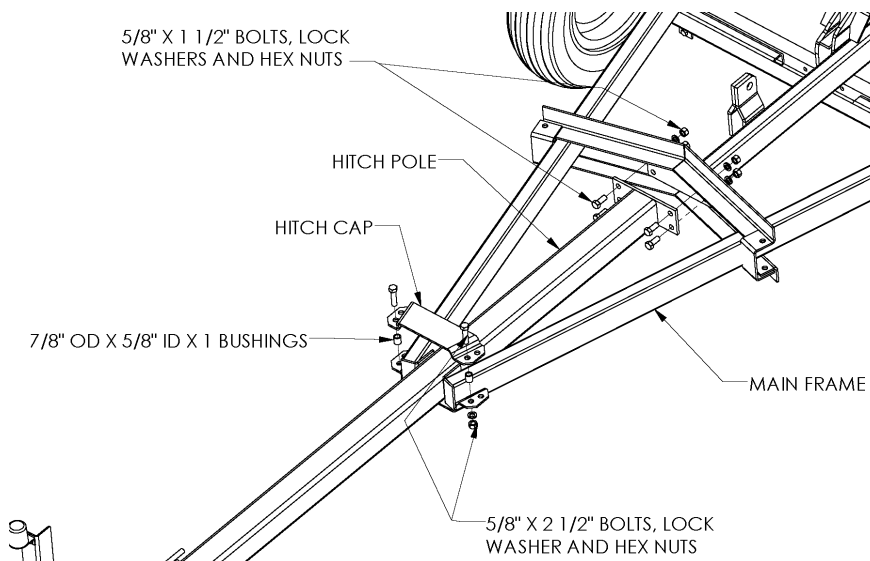

Figure 3
5. Place the hitch pole inside the main frame as shown in Figure 3 and bolt the rear of the pole to the frame with four 5/8" x 1 1/2" hex bolts, lock washers, and hex nuts. Be sure the hitch head is oriented as shown in Figure 3.
6. Place the hitch cap over the hitch pole with two 7/8" OD x 5/8" ID x 1" bushings between the plates at the front two holes. Refer to Figure 3. Fasten the hitch cap with two 5/8" x 2 1/2" bolts, lock washers, and hex nuts in the front two holes. Do *not* completely tighten the bolts yet.